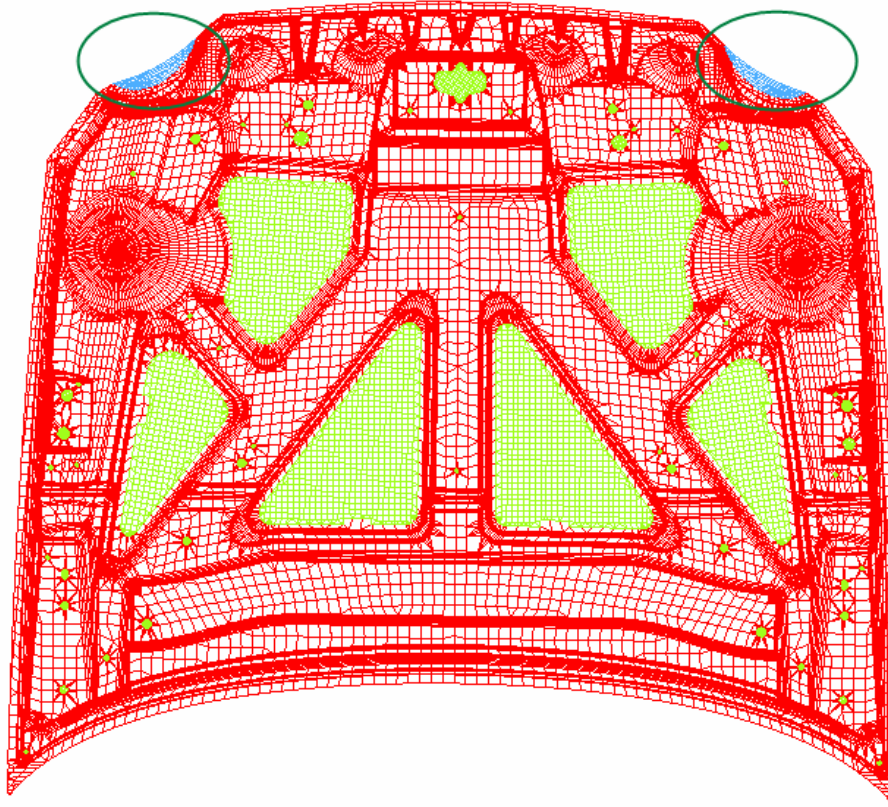

Figure 25 After outer smooth
6. Click **Fill Boundary** button to fill the boundary near the headlamp area of the hood, as illustrated in Figure 25.